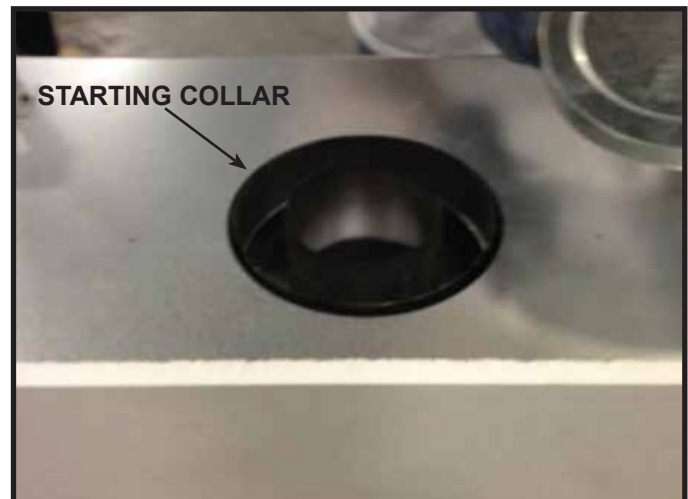

Figure 6.4 Starting Collar
3. Secure the first section of venting to the firebox by attaching to the starting collar with screws. See Figure 6.4.